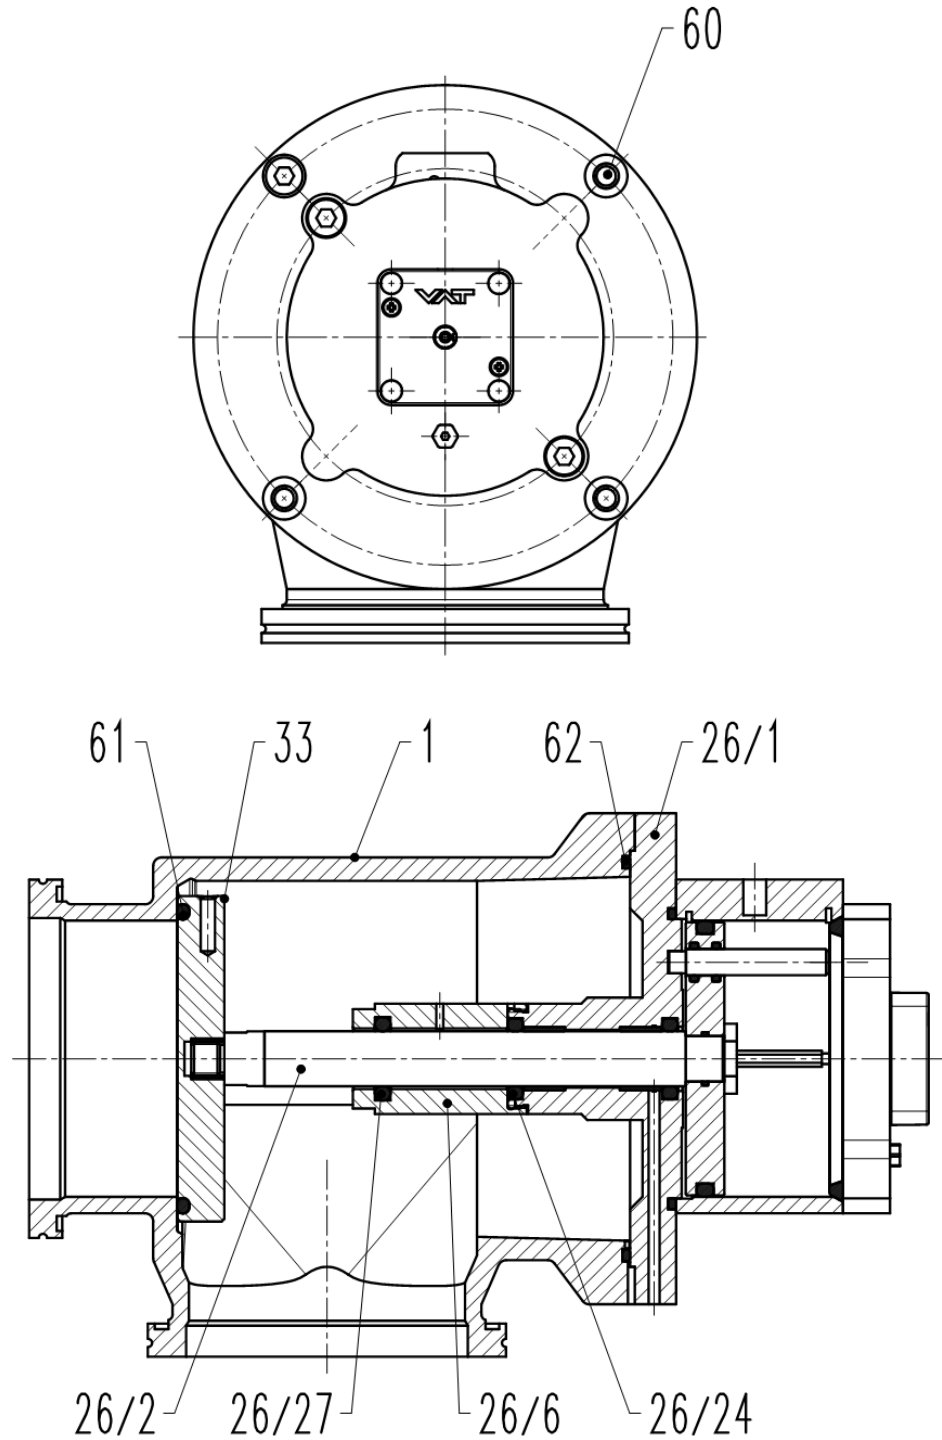

Figure 6-2
The follow item numbers in brackets refer to «Figure 6-2» on page 17.
9. Apply 0.20 g vacuum grease on the thread of the actuator shaft (26/2) and screw the plate (33) to the actuator shaft (apply a 35Nm torque to fasten the thread).
There must not be a gap between the plate (33) and shaft (26/2); see «Figure 6-2» on page 17.